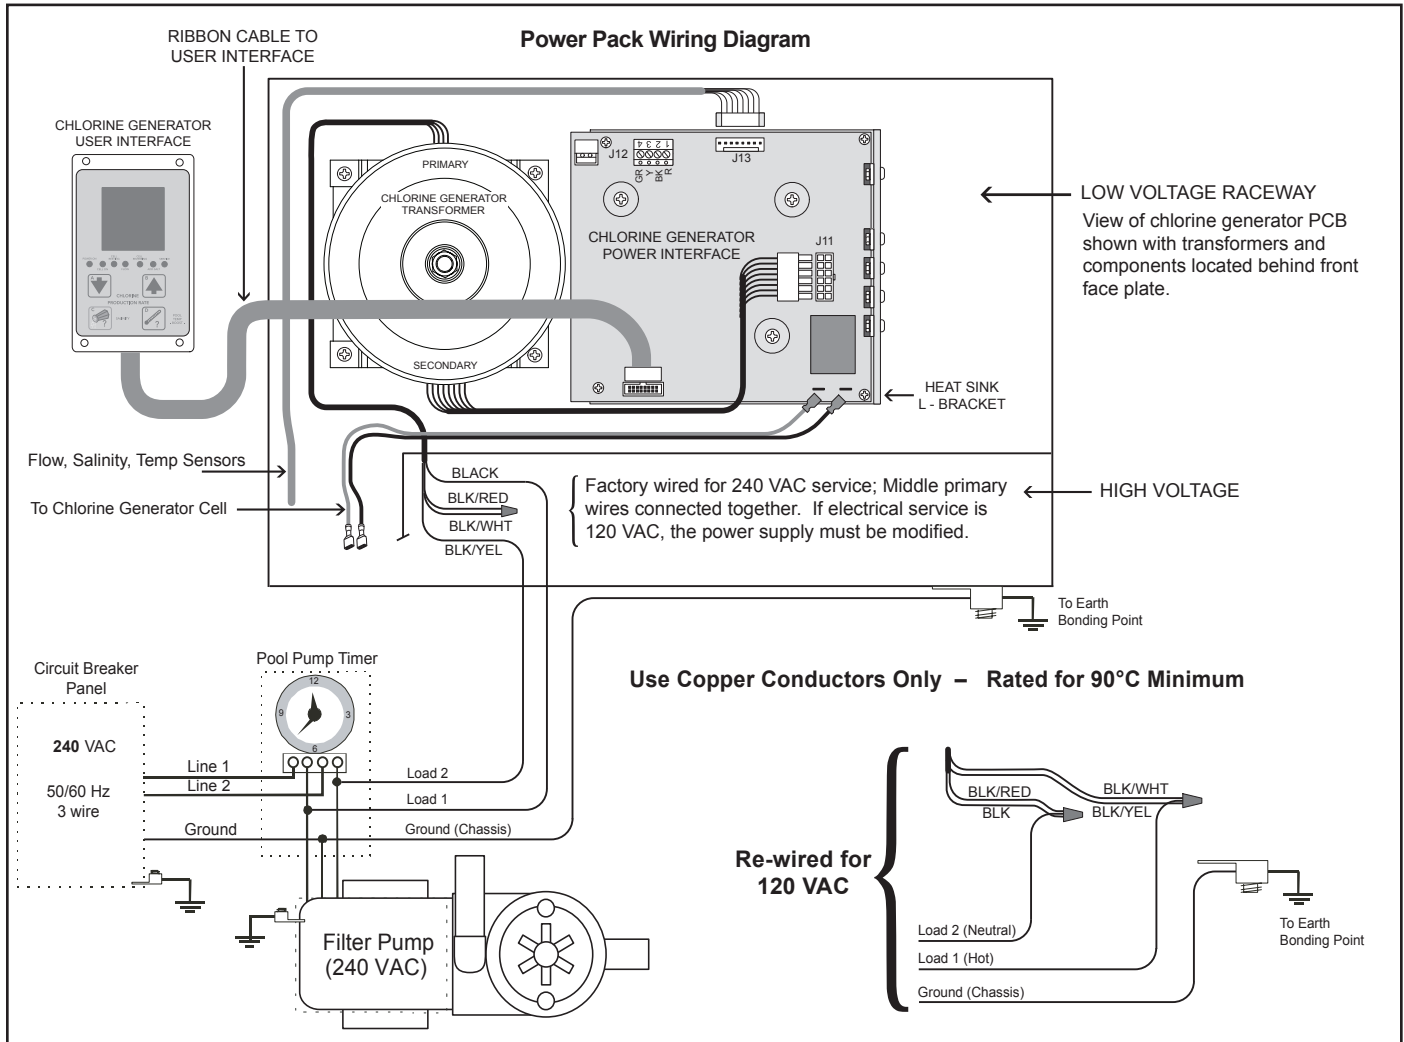
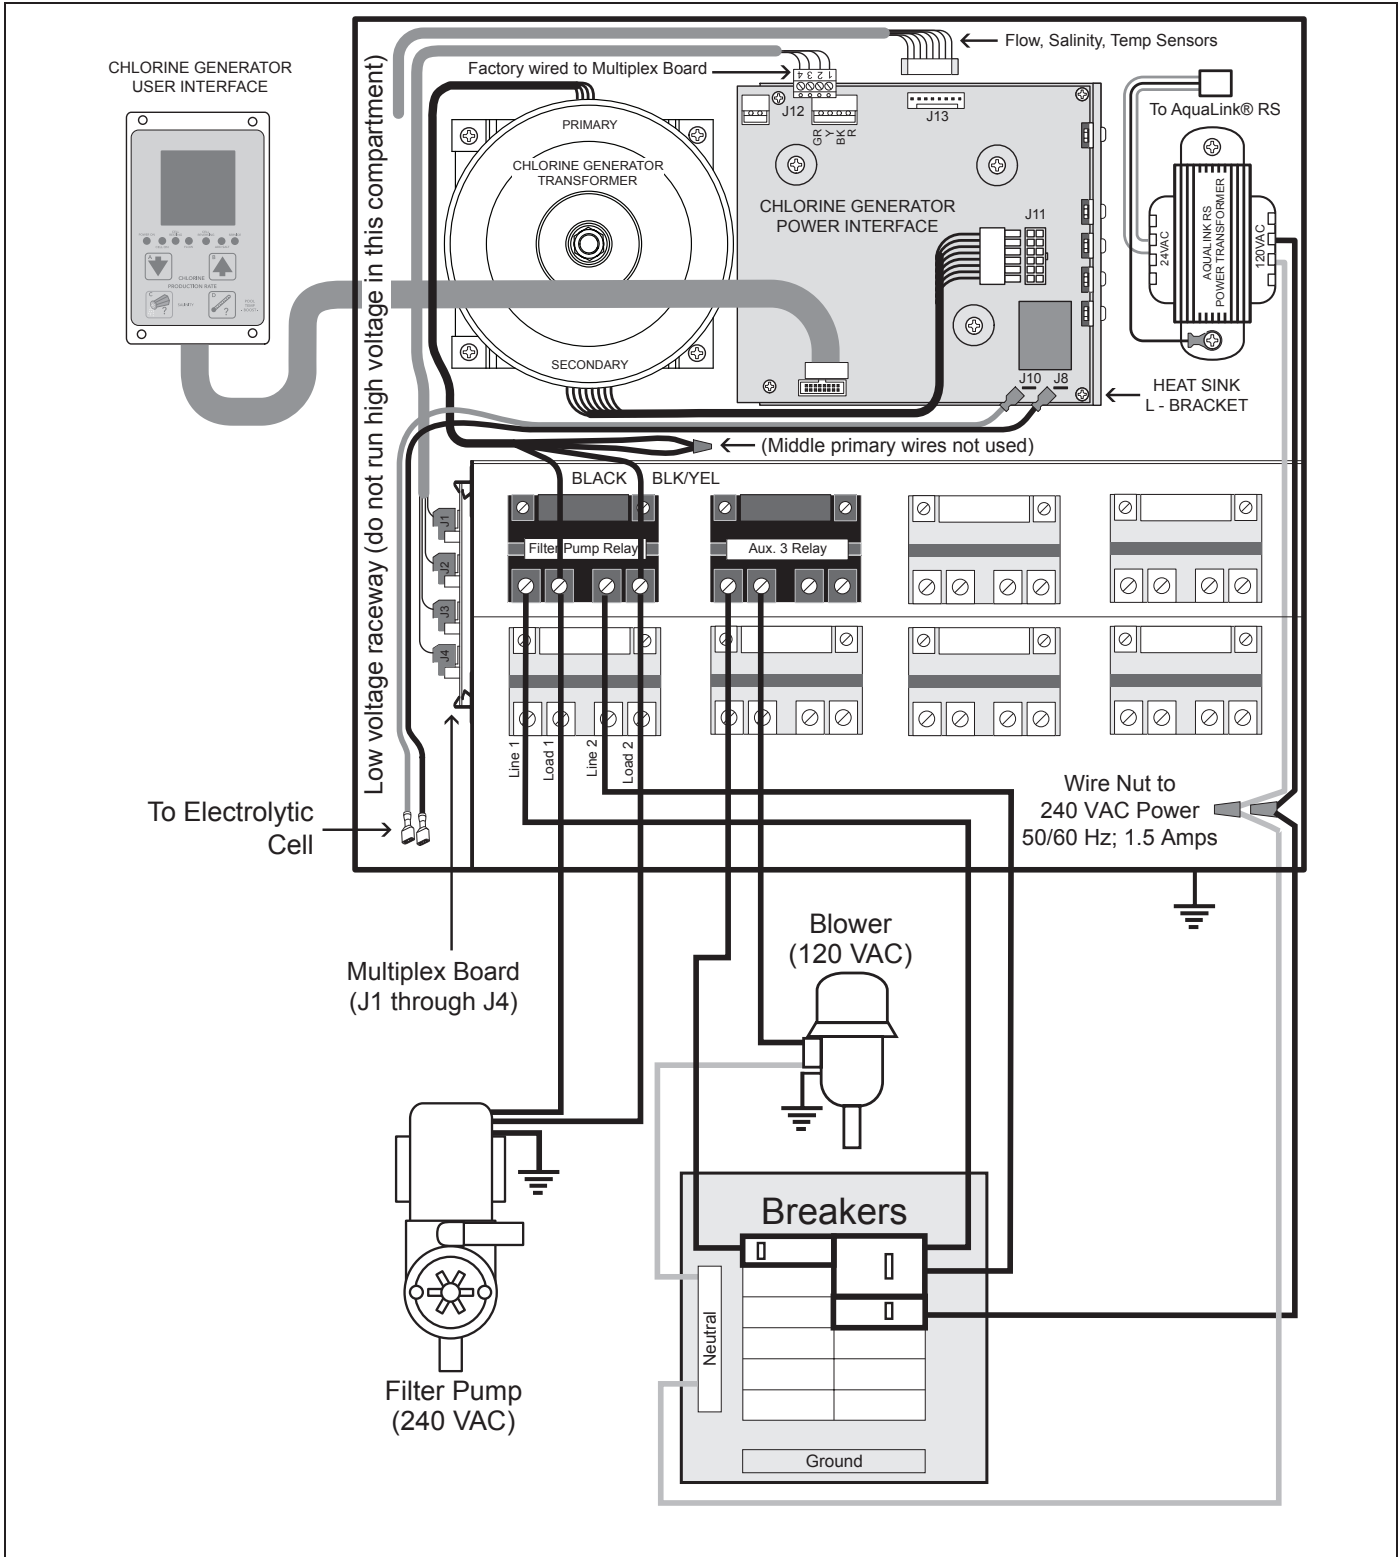
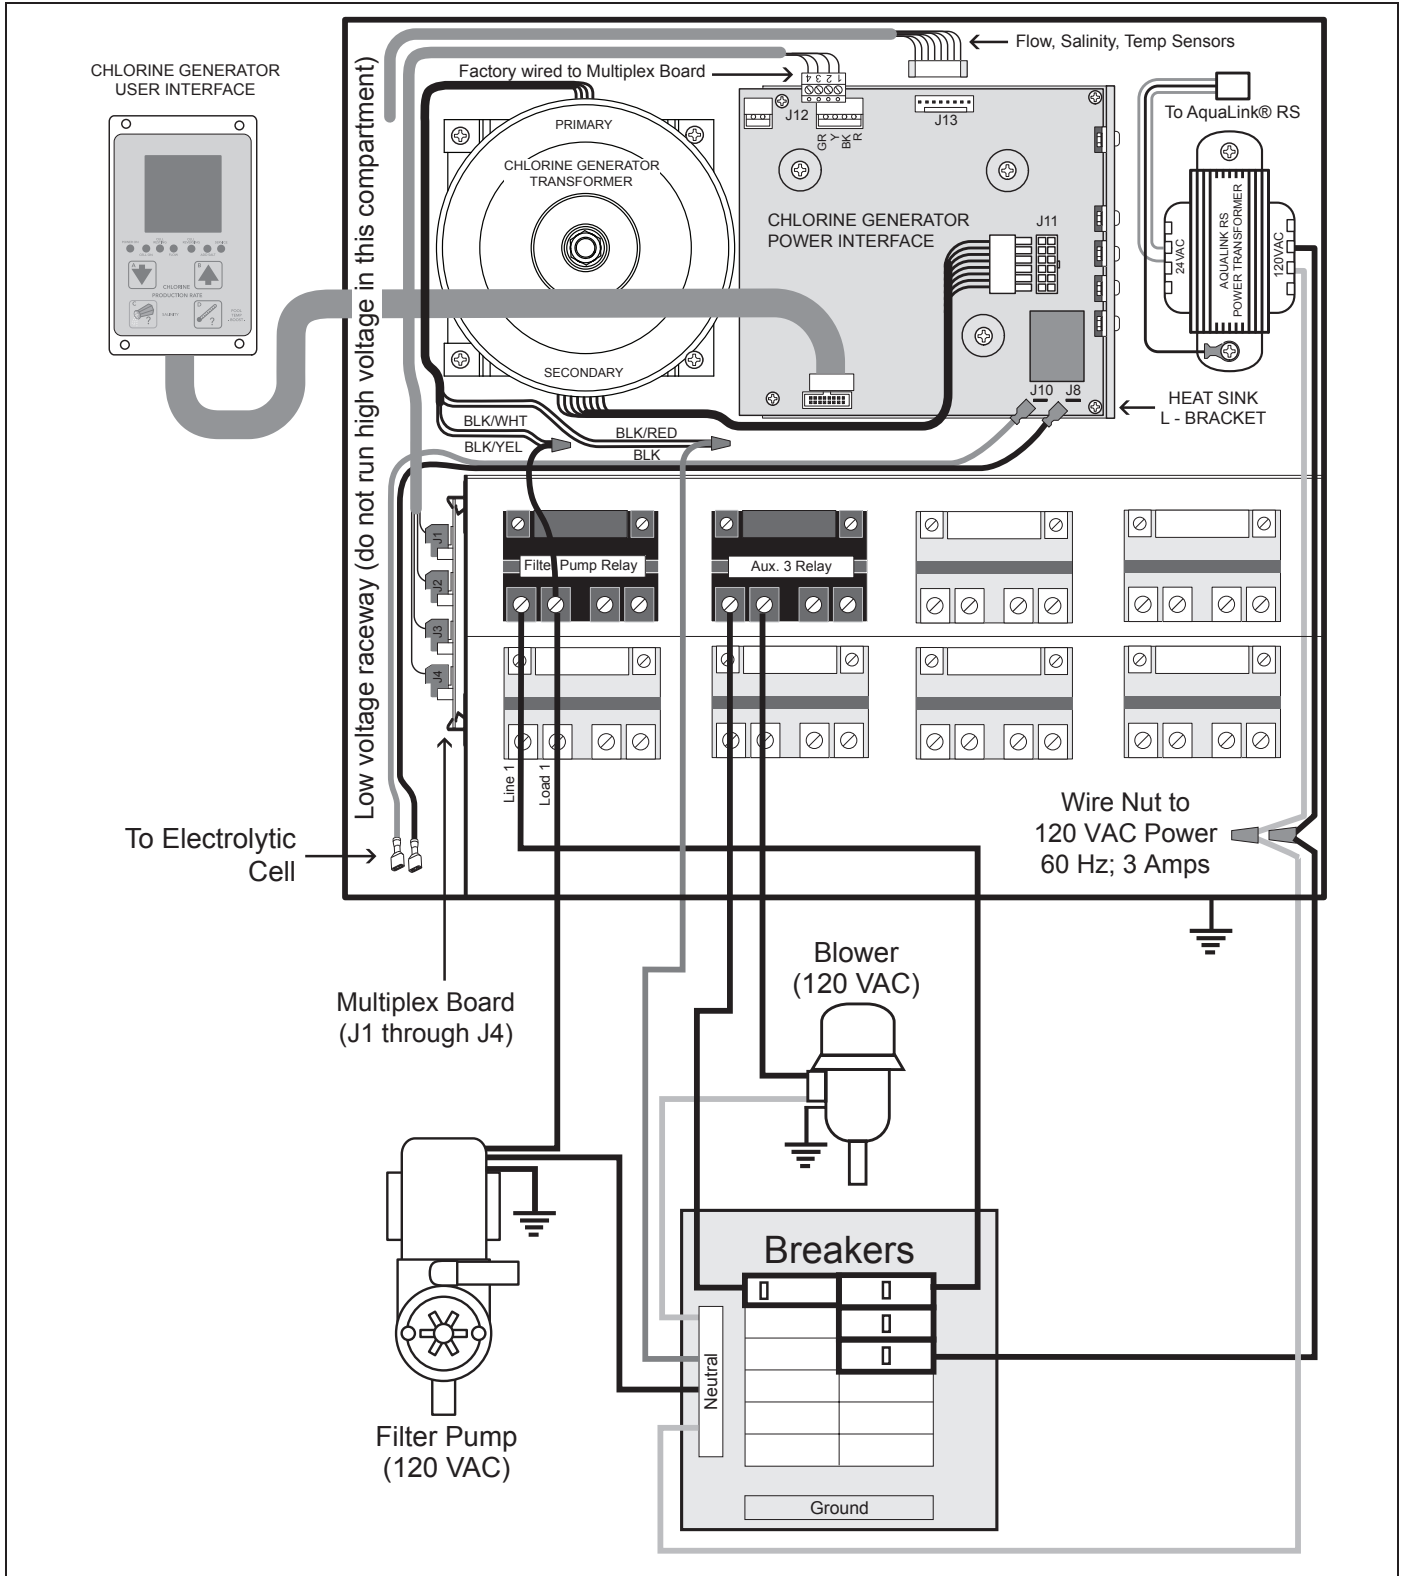

Figure 11. Wiring Diagram for the Power Pack
Figure 12. Wiring Diagram for the AquaLink® RS PureLink™ System with connection to 240 VAC Filter Pump
Figure 13. Wiring Diagram for the AquaLink® RS PureLink™ System with connection to 120 VAC Filter Pump
- Check source voltage. (All units are factory wired for 240 VAC). ***In order to use on 120 VAC, the internal factory wiring of the power center must be changed.*** (see Figure 11 *and* Figure 13).
3. Install the strain relief provided with the vessel kit into the low voltage knock out at the power pack. Feed the connector end of the flow/temp/salinity sensor cable through the DC cord strain relief fitting. **Be certain the connector is clean and dry**, then plug the cable into the connector on the power center printed circuit board as shown in Figure 11, Figure 12 and Figure 13. **(Do not pull flow/temp/salinity sensor cable too tight, allow some slack).**
5. Connect the DC cord to the power center. Feed the DC cord through the same strain relief fitting as the flow/temp/salinity sensor at the power pack. Plug the DC cord into the two (2) spade connectors of the wiring harness located in the low voltage raceway of the control/power center, see Figure 11, Figure 12 and Figure 13. This wiring harness establishes the connection between the cell and the power interface board.
- If the ribbon cable connecting the user interface to the power interface board was disconnected during installation then reconnect before reattaching cover (see Figure 11, Figure 12 and Figure 13).
Wire the PureLink power center transformer to the load side of the filter pump relay. See Figure 12 and Figure 13.